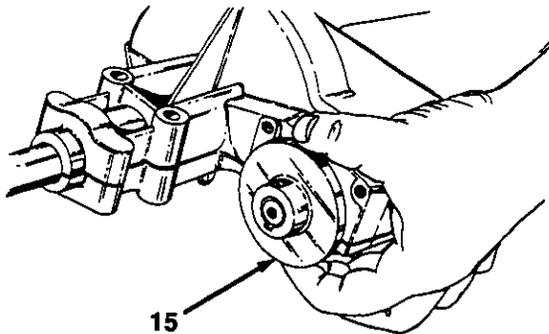

FIGURE 7.
2. Remove the brake disc from the drive shaft, by simply sliding it off shaft. See figure 7.